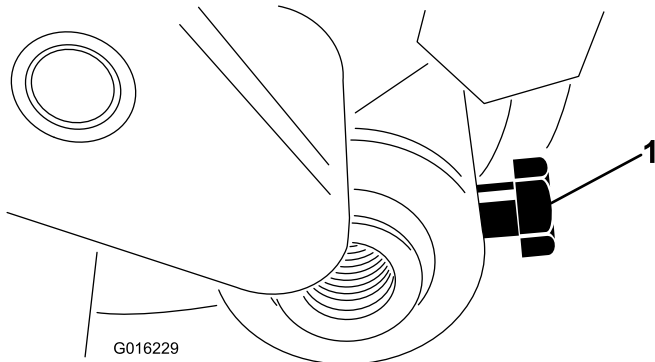

Figure 28
3. Loosen the bolt securing the roller shaft to the height-of-cut arm (Figure 28).